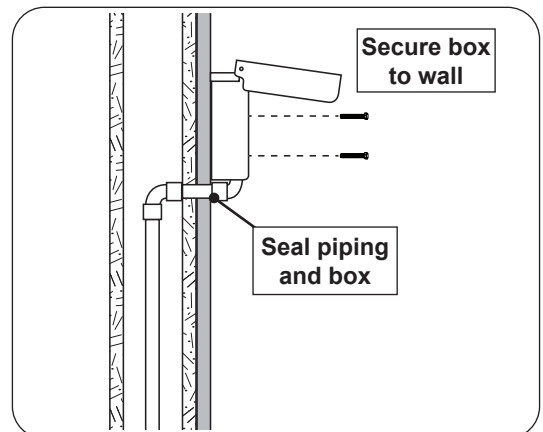

Fig. 2-3 Install stainless steel box
5. Secure the box to the wall using the mounting holes provided on the rear of the box assembly and appropriate mounting hardware for your construction (not included). See Fig. 2-3.